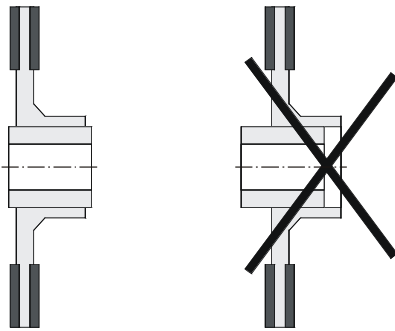

Fig. 6
1. Loosen the cap nuts (19) and remove the washers (20).
2. Remove the flange plate (3) from the brake by lightly tapping the stud screws (3.1) with a plastic hammer.
3. Screw the flange plate (3) onto the motor bearing shield or onto the machine wall (sealing must be carried out customer-side; if there are any questions concerning sealing, please contact the manufacturers).
4. Mount the gear hub (1) onto the shaft, bring it into the correct position (the length of the key should lie over the entire hub) and secure it axially (e.g. using a locking ring).
5. Push the rotor (4) by hand onto the gear (1). Check that the toothing moves easily.
The rotor (4) must be placed onto the hub (1) so that the toothing remains engaged even after wear on the friction linings (Fig. 6).